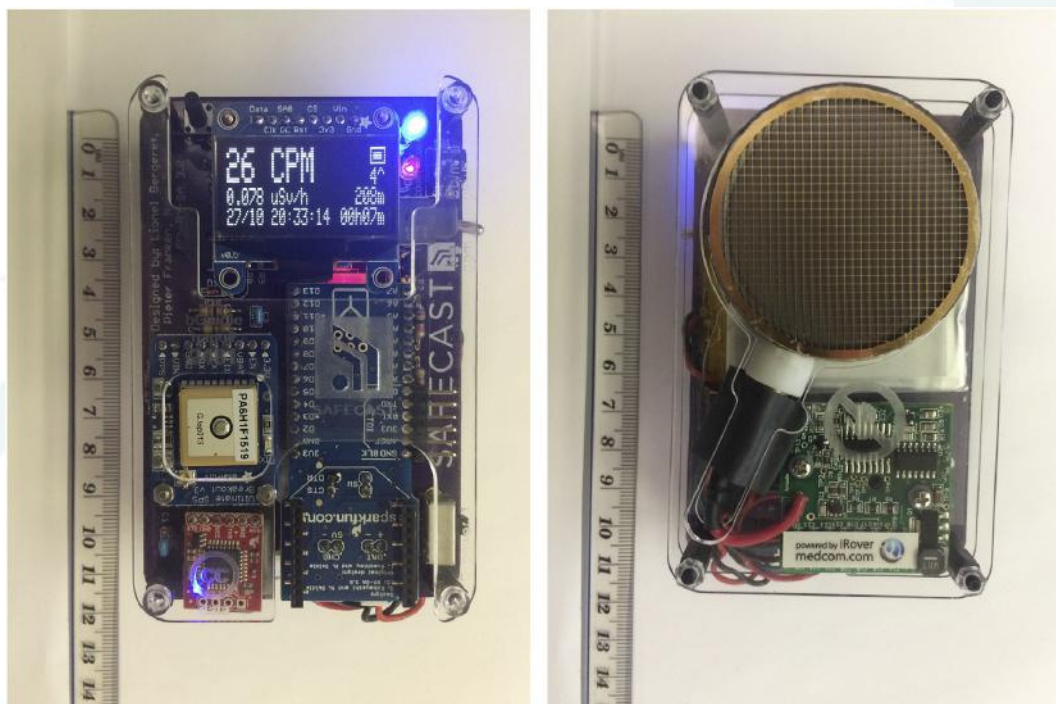

Figure 1: Shows the assembled bGeigie Nano Monitor
- In figure 1, the left picture shows the front view of the monitor, where the CPM and the dose rate can be seen being counted on the LCD screen. The picture on the right shows the LND 7317 Pancake sensor that measures the CPM.